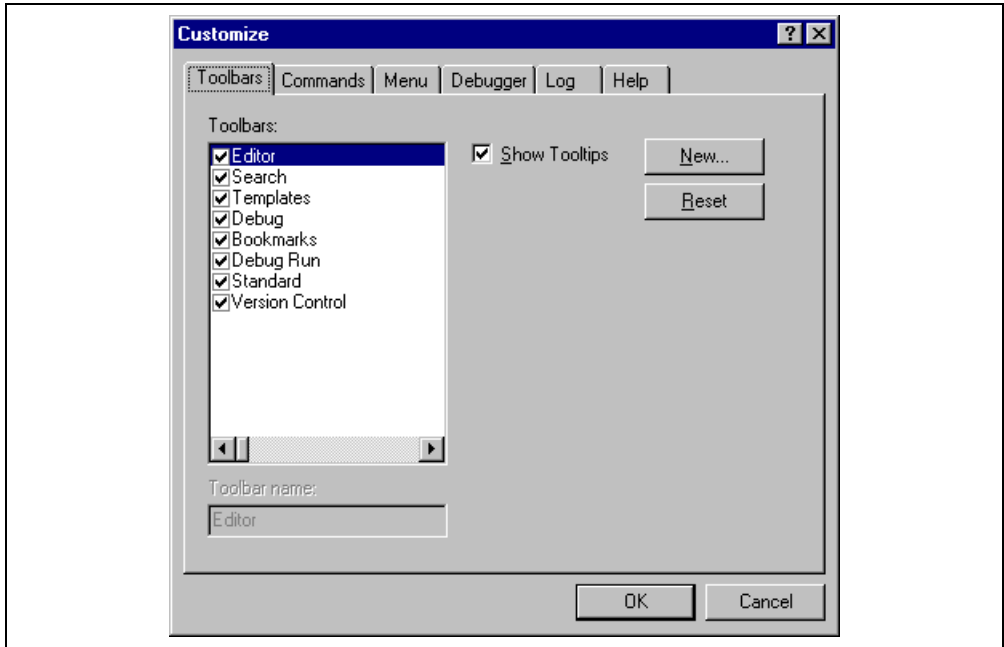
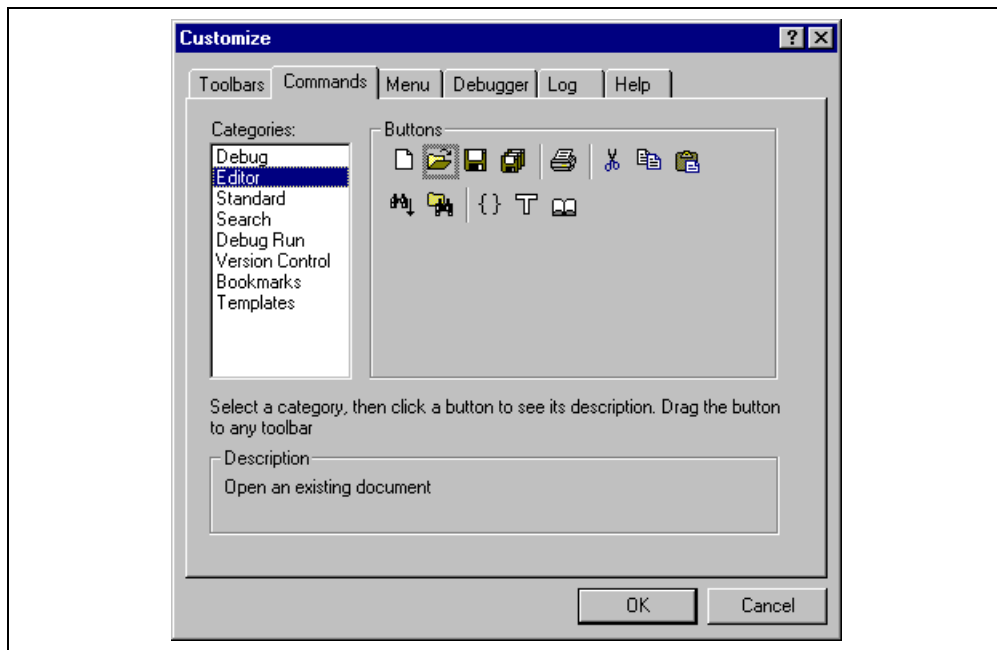
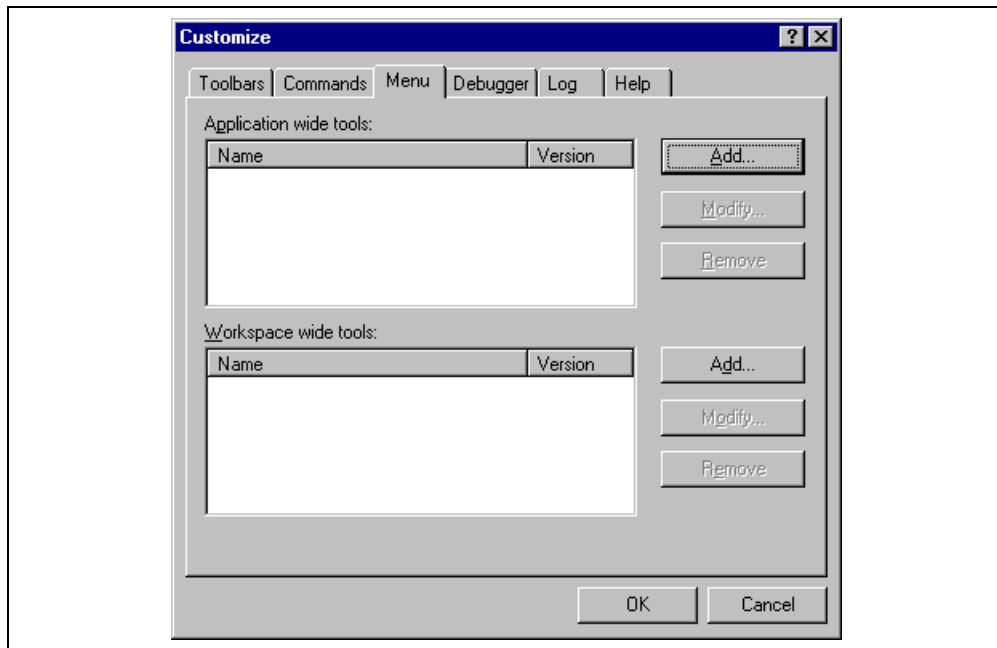
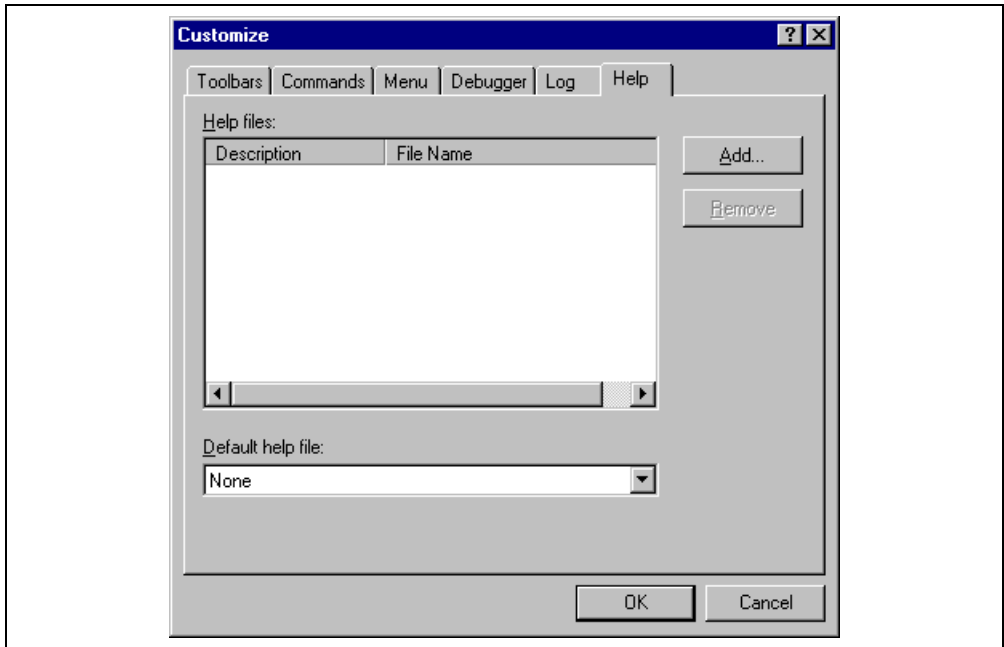

Figure 6.1: Customize Dialog Toolbars Tab
Figure 6.3: Customize Dialog Commands Tab
Figure 6.4: Customize Dialog Menu Tab
Figure 6.7: Customize Dialog Help Tab
The Hitachi Embedded Workshop provides 2 standard toolbars as detailed in chapter 1, “*Overview*”. In addition to these, you may also construct your own toolbars via the * MERGEFORMAT “Customize” dialog (figure 6.1).
1. Select [Tools->Customize...]. The dialog shown in * MERGEFORMAT figure 6.1 will be displayed.
1. Select [Tools->Customize...]. The dialog shown in * MERGEFORMAT figure 6.1 will be displayed. Select the “Commands” tab (see * MERGEFORMAT figure 6.3).
1. Select [**Tools->Customize...**]. The dialog shown in * MERGEFORMAT figure 6.1 will be displayed. Select the “Commands” tab (see * MERGEFORMAT figure 6.3).
1. Select [**Tools->Customize...**]. The dialog shown in * MERGEFORMAT figure 6.1 will be displayed.
2. Select the user-defined toolbar from the “Toolbars” list, and the “Reset” button in * MERGEFORMAT figure 6.1 changes to the “Delete” button. Then click the “Delete” button.
1. Select [**Tools->Customize...**]. The dialog shown in * MERGEFORMAT figure 6.1 will be displayed. Select the “Menu” tab (see * MERGEFORMAT figure 6.4). The first thing for you to decide is whether you are adding a global application wide tool (“Application wide tools:”), which will be available to all of your workspaces. Or whether you wish to add a workspace wide tool (“Workspace wide tool:”), which is only valid for the current workspace. Once you have made the choice choose the relevant section of the dialog.
1. Select [**T**ools->**C**ustomize...]. The dialog shown in * MERGEFORMAT figure 6.1 will be displayed. Select the “Menu” tab (see figure 6.4).
1. Select [**T**ools->**C**ustomize...]. The dialog shown in * MERGEFORMAT figure 6.1 will be displayed. Select the “Menu” tab (see * MERGEFORMAT figure 6.4).
1. Select [**Tools->Customize...**]. The dialog shown in * MERGEFORMAT figure 6.1 will be displayed. Select the “Help” tab (see * MERGEFORMAT figure 6.7).